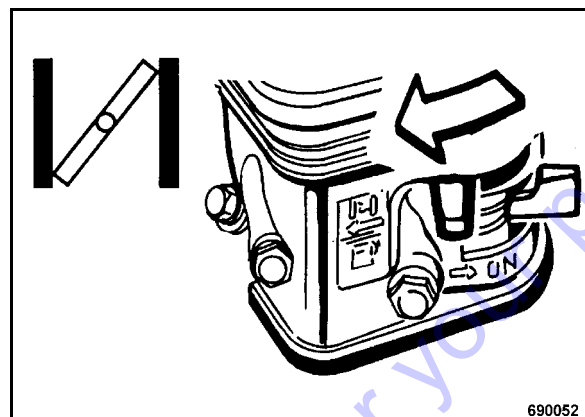

Fig. 22
- If the engine stops again after approx. 3 to 5 seconds, close the choke again with the lever (Fig. 22) and repeat the starting process.